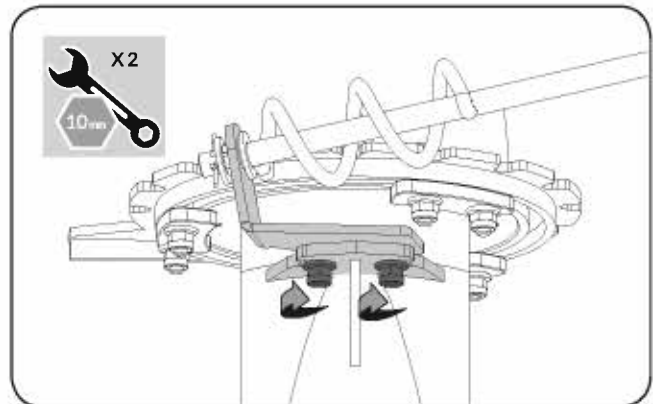

Figure 5b
- Make sure the spiral at the bottom is fully engaging with the chute crank flange and tighten the two bolts on the chute bracket. (See **Figure 5b**)